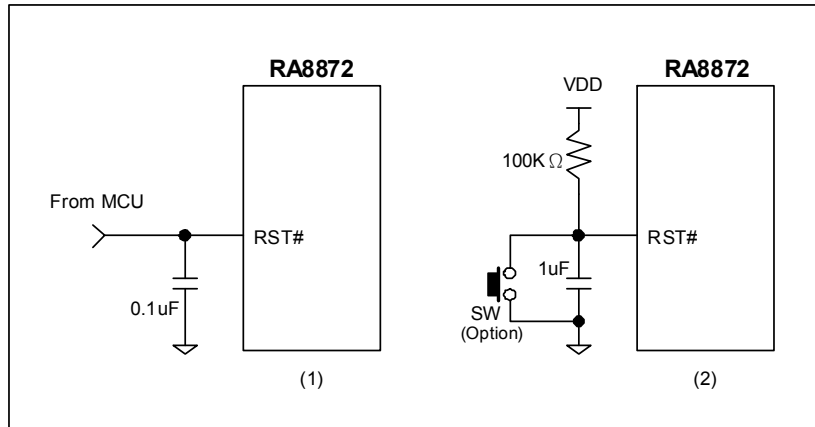

Figure 6-18: Examples of RST# Pin
Figure 6-18 is an example for Reset application circuit. It could be controlled by MCU such as (1) of Figure 6-18, or generated by a RC circuit such as (2) of Figure 6-18.